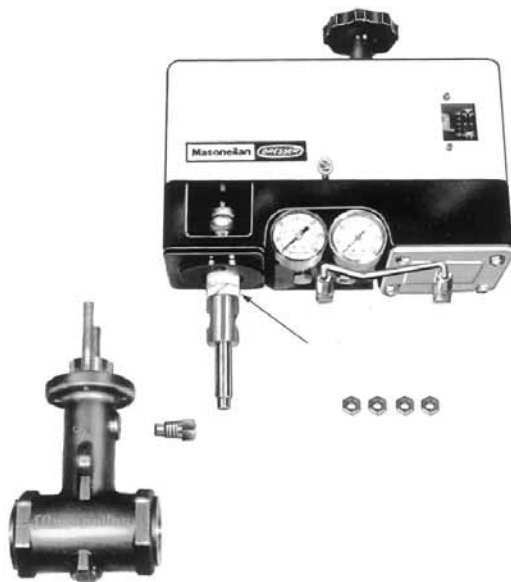

Figure 21 - Packing replacement (for C_v maxi \geq 0.6)
- N. Admit the signal and supply pressure and complete calibration. Refit cover (110) using the two screws (109). If the valve is equipped with a handwheel, refit the cover, then turn the handwheel clockwise until it is engaged in lever arm stop (122). Tighten cover screws (109).
5.5 Packing Quick Change Method (Only For Valves With Max. C_v Of 0.6 To 3.8) (Figures 21, 26 And 27)